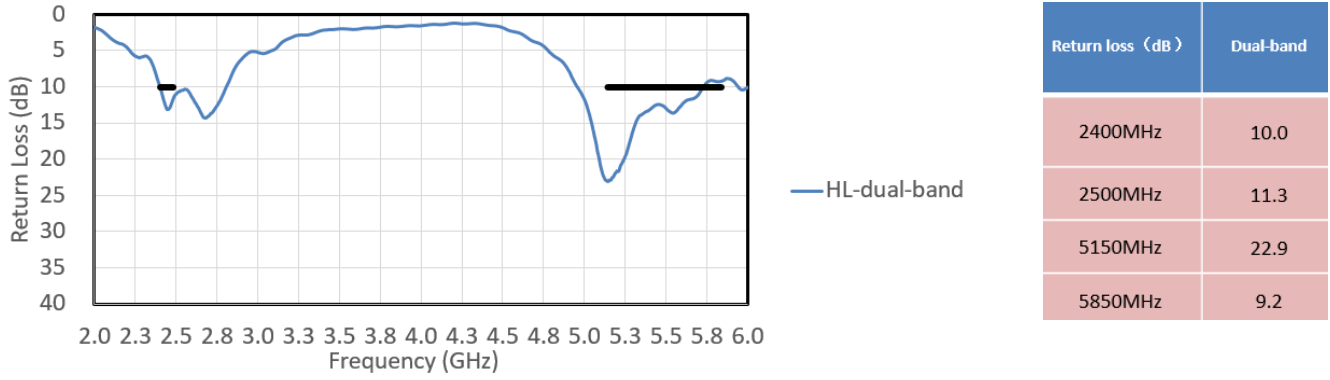

Figure 3. Measured Return Loss of 00-3601022800.
- Figure 3. Measured Return Loss of 00-3601022800.8